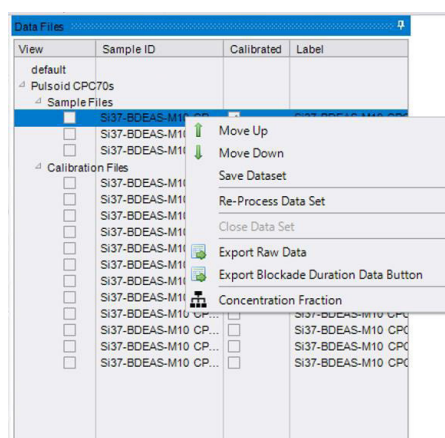

Figure 21. Menu and export option for blockade duration data.
3. If you wish to calculate zeta potential, you will need to export the blockade duration datasets for each zeta calibration recording plus the sample recording(s) you wish to analyse. To do this, right click on each file name and click 'Export Blockade Duration Data Button', as shown in Figure 21.